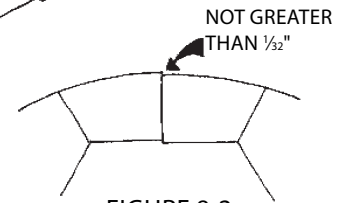

FIGURE 8-2
1. Because shaft halves may become slightly out of round as they absorb or lose moisture, it is important to preassemble before gluing. The seams should join together smoothly when clamped, with no more than a 1/32" variance (Fig. 8-2).